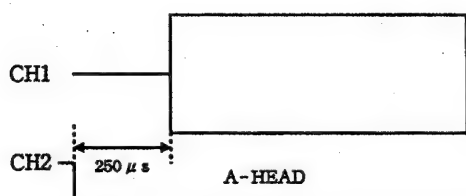

Fig. 2-12
5. So that the time difference between the leading edge of the switching pulse and the envelope edge of the RF output signal is 250  $\mu$ sec (See Fig. 2-12), adjust R51 (See Fig. 2-20) on the SERVO PCB.